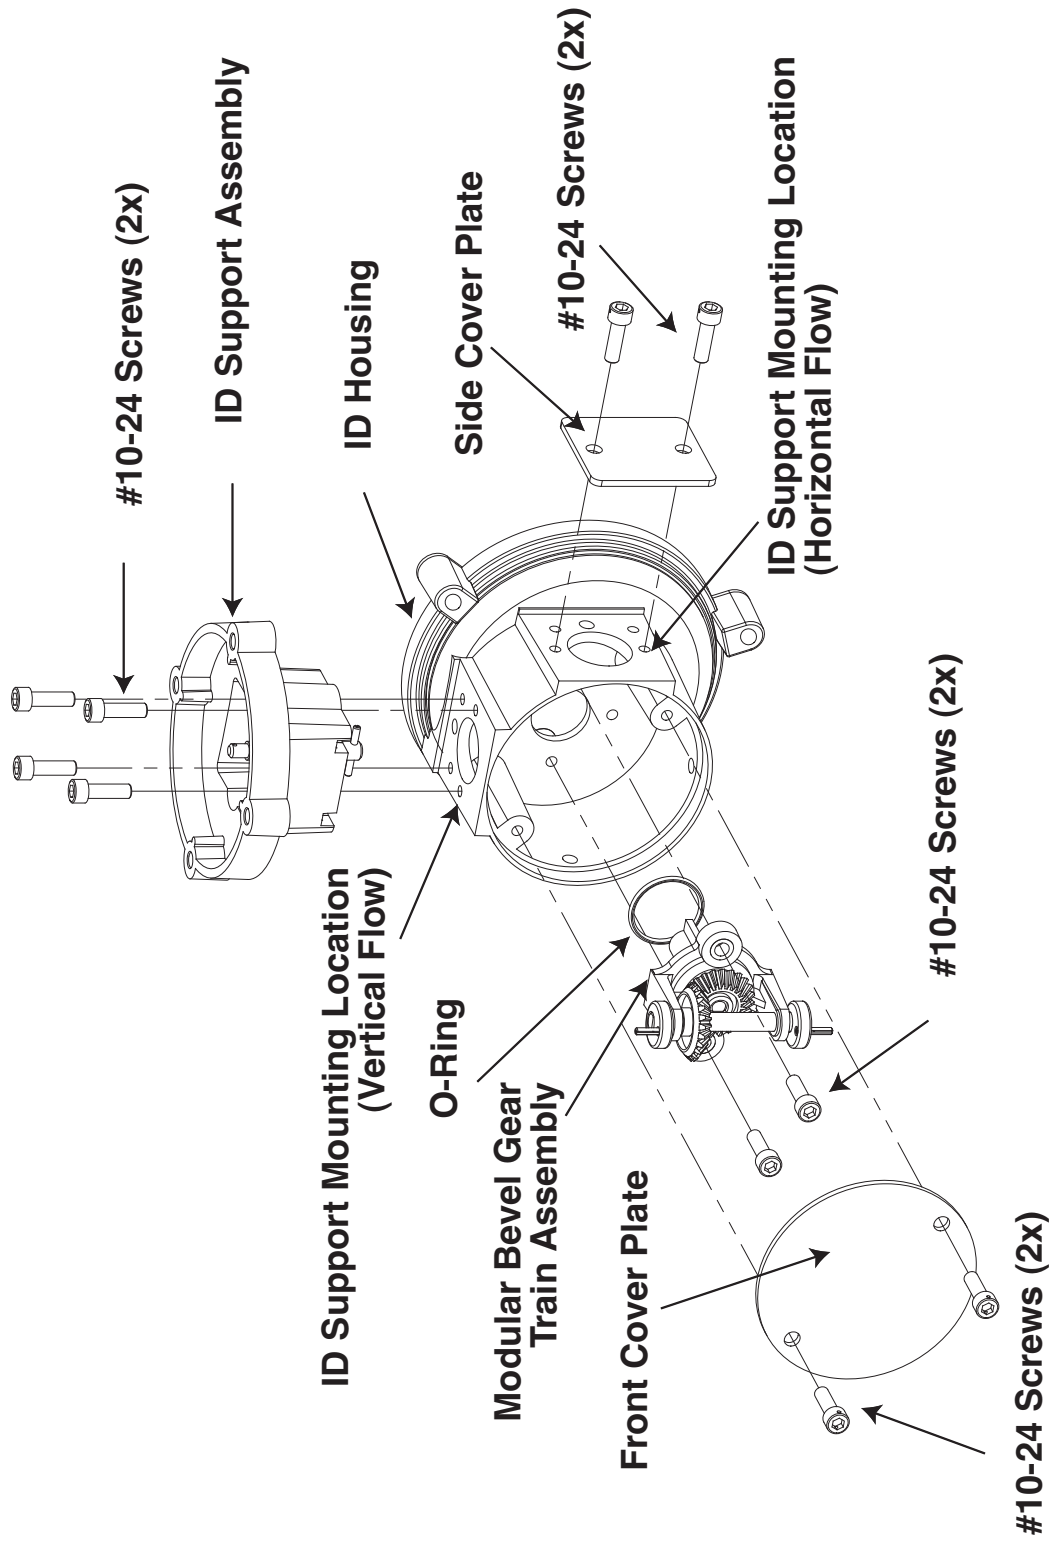

Figure 19 - Exploded View of Instrument Drive (ID) Assembly.
The following procedures are required to change the position of the instrument drive assembly and drive dog rotation direction. Refer to Figures 19, 20 and 21 for component locations.
1. Using a 5/32” Allen wrench, remove the two #10-24 screws that hold the Front Cover Plate onto the aluminum ID housing. Remove the cover plate. Refer to *Figure 19* for component identification.